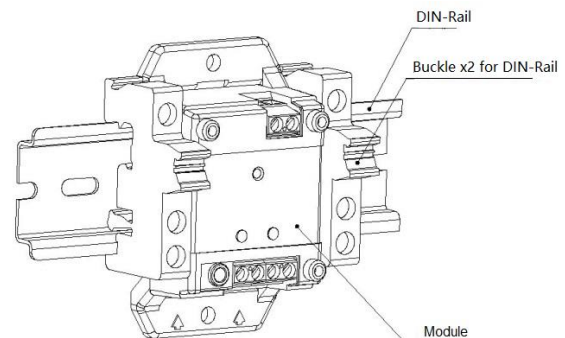

Fig. 2
- (1) Before installation, make sure the enclosure is in good condition and markings are complete.
- (2) The module can be mounted on a 35mm DIN-Rail as shown in Fig. 2.